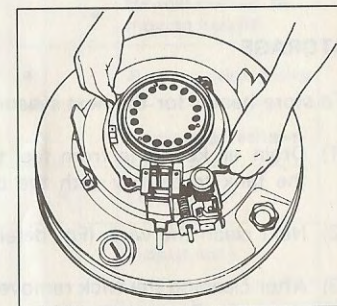

Fig. 26
- (11) Put the wick holder assembly into the wick guide cylinder with the wick control shaft pointing front.
- (12) Insert the flame adjustment knob into the shaft.
- (13) Turn wick up and down to make sure that wick fits in the holder and moves smoothly. If not, repeat wick installation procedure from step (10).
- (14) Tighten each two diagonal wing nuts simultaneously so that the gap for up and down movement of the wick is evenly throughout (fig. 26). After fixing the wing nuts, secure the shut-off device bracket and then the shaft bracket to fuel tank with screws. When securing the shaft bracket, make sure shaft is not stressed or bent and can be turned smoothly. Note: Secure the wing nuts before securing the shaft bracket, otherwise, the shaft will be stressed.